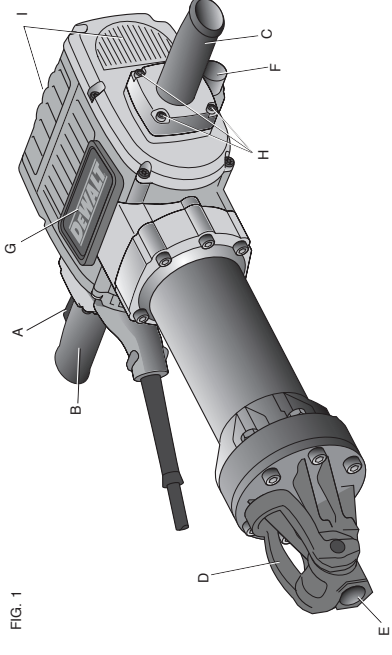

FIG. 1
**COMPONENTS (FIG. 1)**
### Side Handle (Fig. 1)
### FEATURES (FIG. 1)